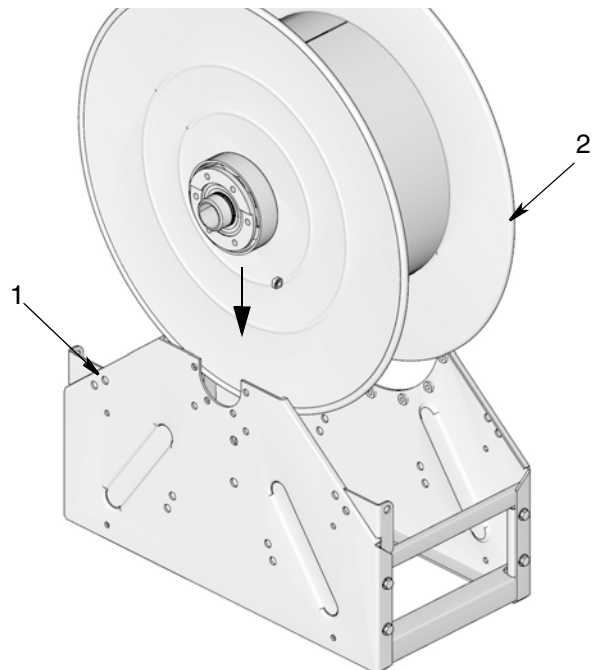

FIG. 38
5. Install spool (2) on reel frame (1) (FIG. 38).